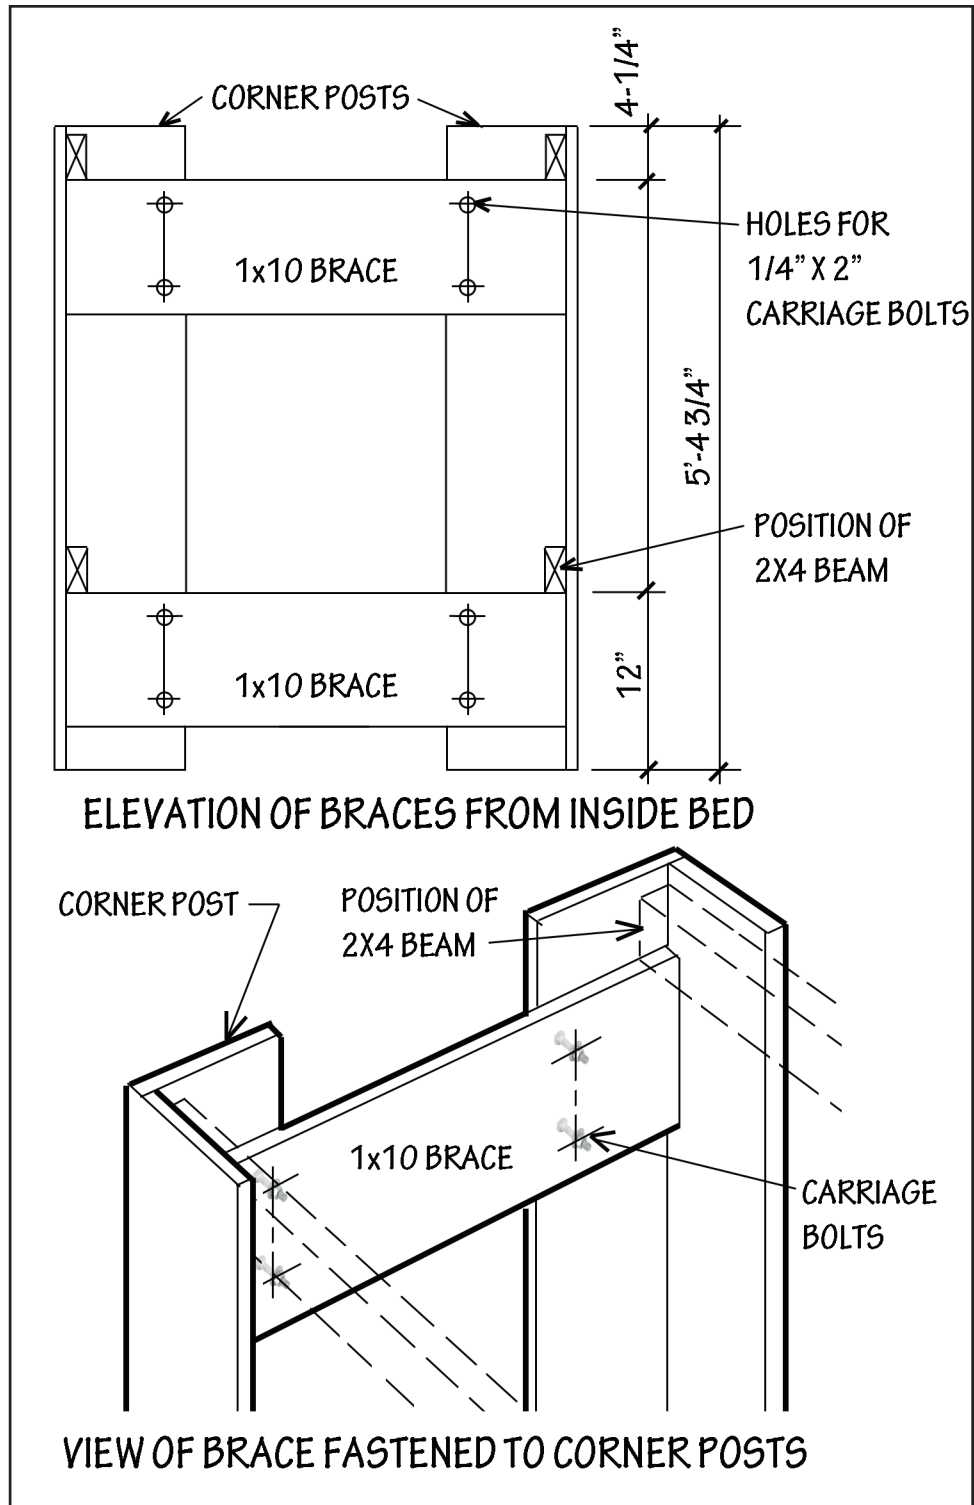

Figure 2. Bolted connection of braces to corner post
3. Using the 1/4" x 2" carriage bolts, fasten the four 1x10 braces (BR-1 through BR-4) to the corner posts, as shown in Figure 2. Two braces are fastened to L-1 and L-8; the other two are fastened to L-4 and L-5 (see diagram at the bottom of page 4 for labeling of corner post members).